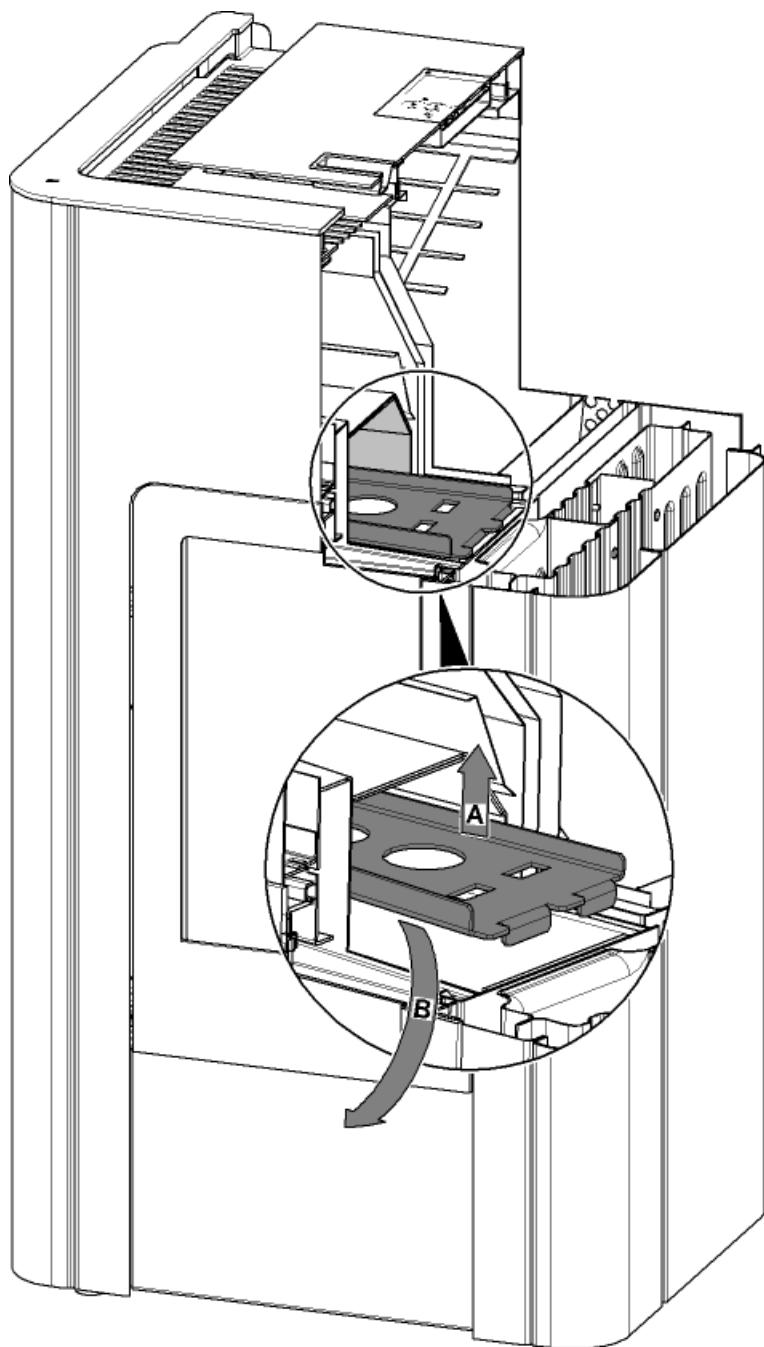

Figure 2: Removing the flue baffle
- Carry out the cleaning as per the Fig. 2.